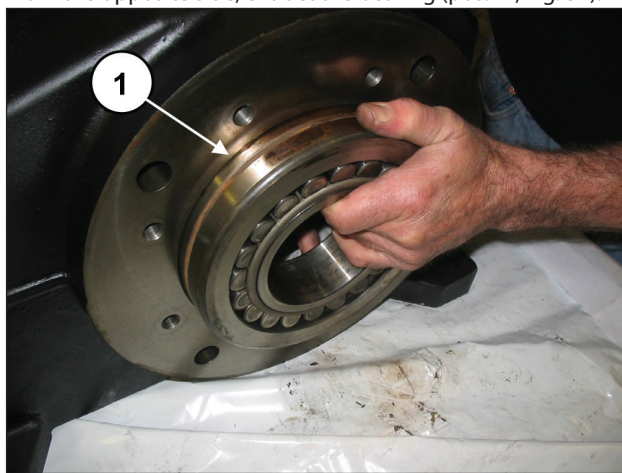

Fig. 31
From the opposite side, extract the bearing (pos. ①, Fig. 31).